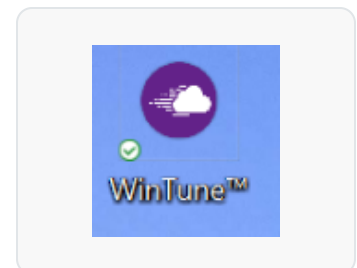

Figure 1 · Desktop icon
- 5 To open WinTune™ later, double-click the desktop icon (Figure 1) or search "WinTune™" in the Windows search bar.